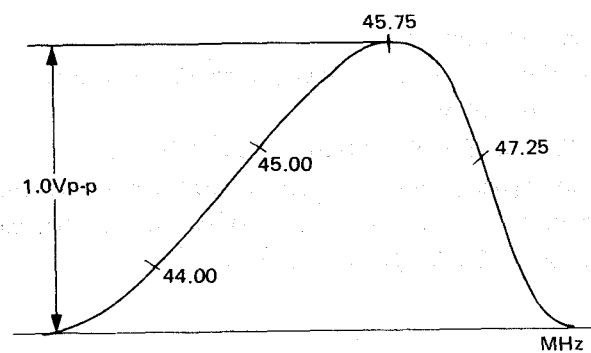

Figure 13
3. Adjust T101 for maximum wave amplitude at 45.75 MHz. (See figure 13)